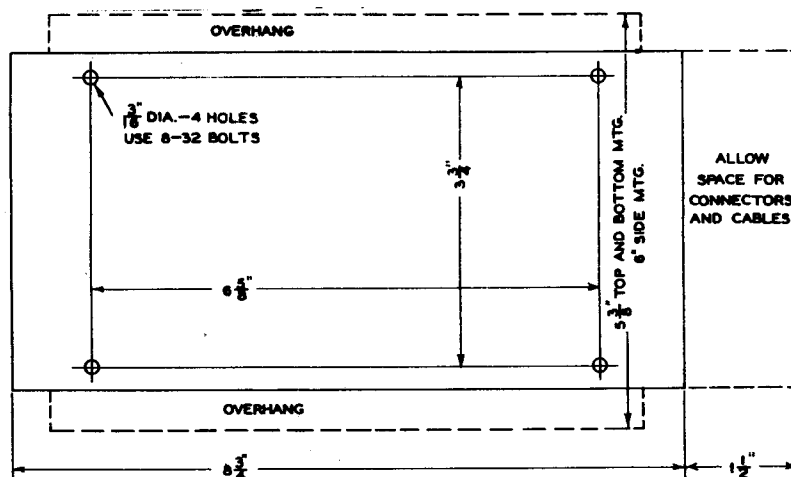

Figure 2. MODULATOR-POWER UNIT—MOUNTING DIMENSIONS
B. MODULATOR-POWER UNIT (V(-)MP-2A) (See Fig. 2)